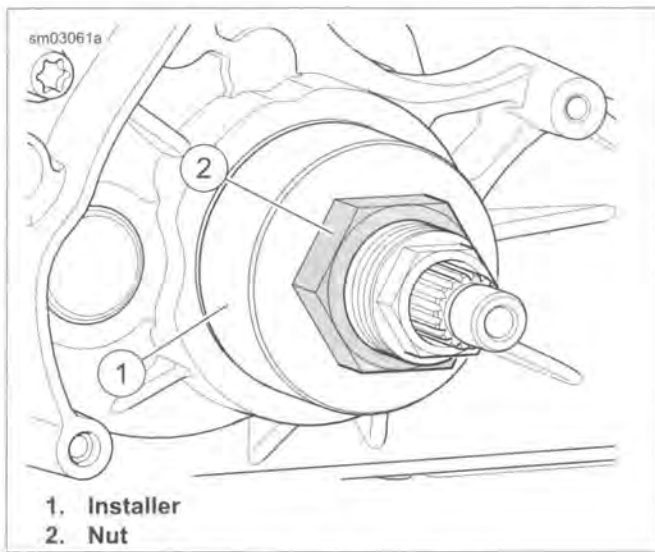
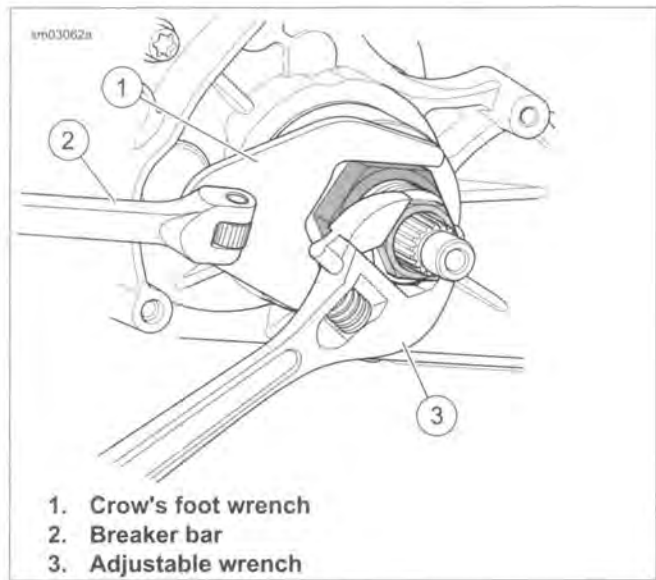

Figure 6-51. Installer and Nut
Figure 6-52. Press Seal into Crankcase
- See Figure 6-51. Slide INSTALLER (Part No. HD-47856-1) (1) over adapter until cupped end of installer is flat against seal.
- Install NUT (Part No. HD-47856-6) (2) onto end of adapter against installer.
- See Figure 6-52. Hold adapter from rotating and tighten large nut with CROW'S FOOT WRENCH (Part No. HD-47856-7) (1) and breaker bar (2) until installer contacts the case.